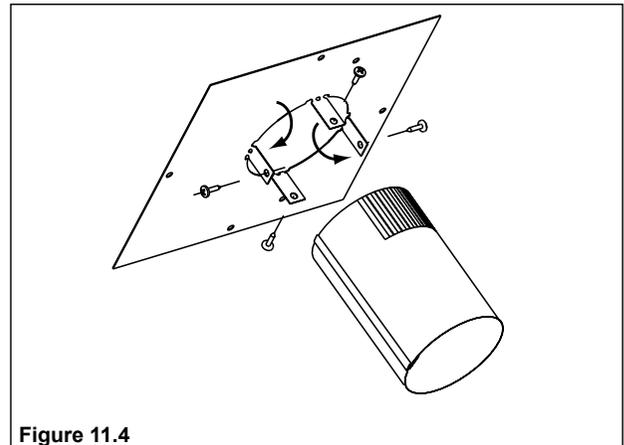

Figure 11.4
5. On the Mounting Plate, hand bend the tabs downward. Slide the tabs over the outside of the starter pipe. Secure with 4 sheet metal screws included in fasteners package. Figure 11.4.